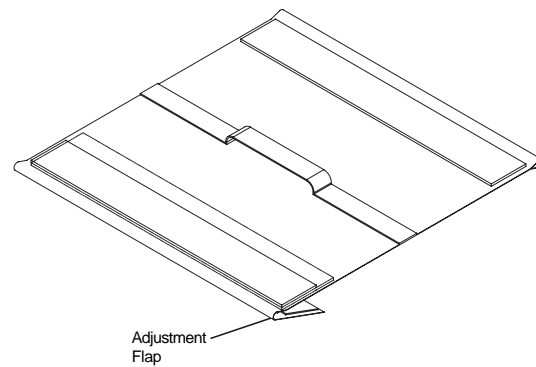

Figure 5
2. Remove slide in seat sling and rod. See Figure 5.